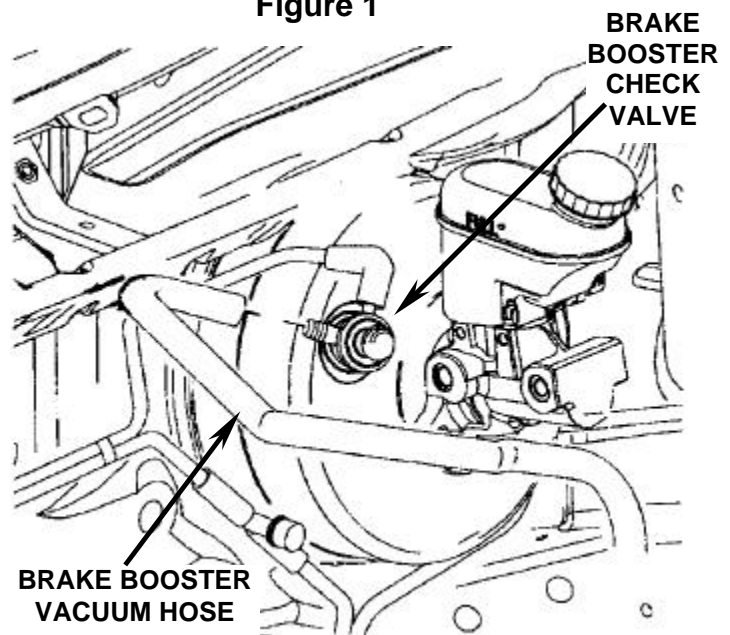

Figure 2
4. Disconnect the brake booster vacuum hose from the check valve on the brake booster (Figure 2). Do not remove the check valve from the brake booster.
7. Connect the brake booster vacuum hose to the check valve on the brake booster (Figure 2) or to the inline hose connector (Neon R/T vehicles).